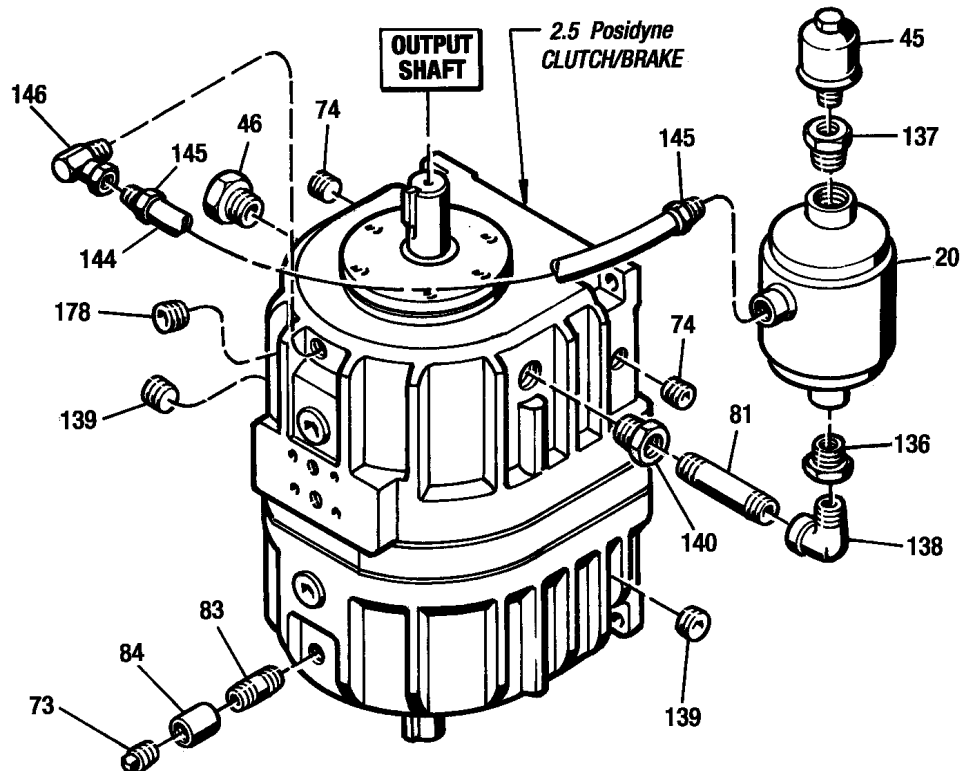

Figure 10.8 - Vertical Installation
*(Repair Parts List for Figure 10.8)*